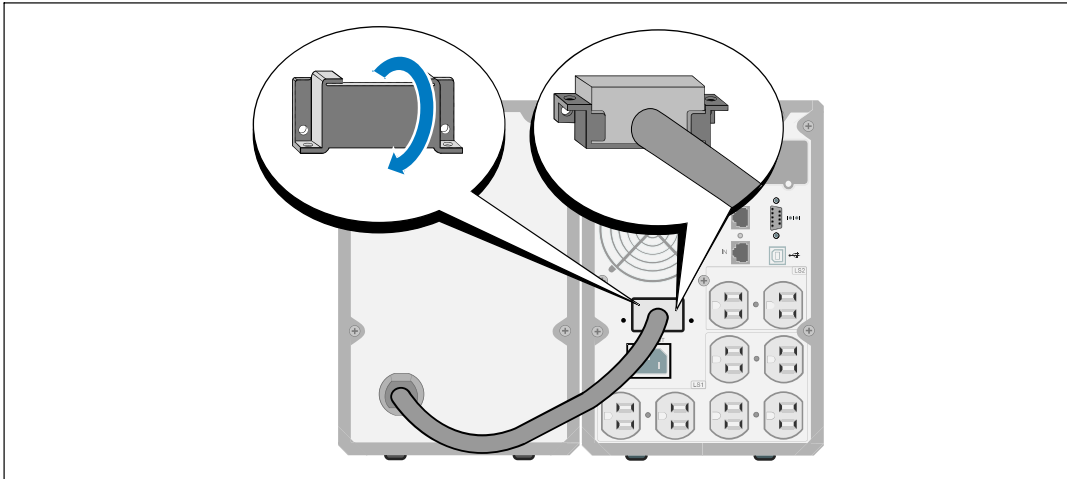

Figure 14. Installing the Battery Connector Cover
- 2 Install the battery connector cover under the EBM cable to provide strain relief (see Figure 14). Rotate the battery connector cover on its side and position under the EBM cable.